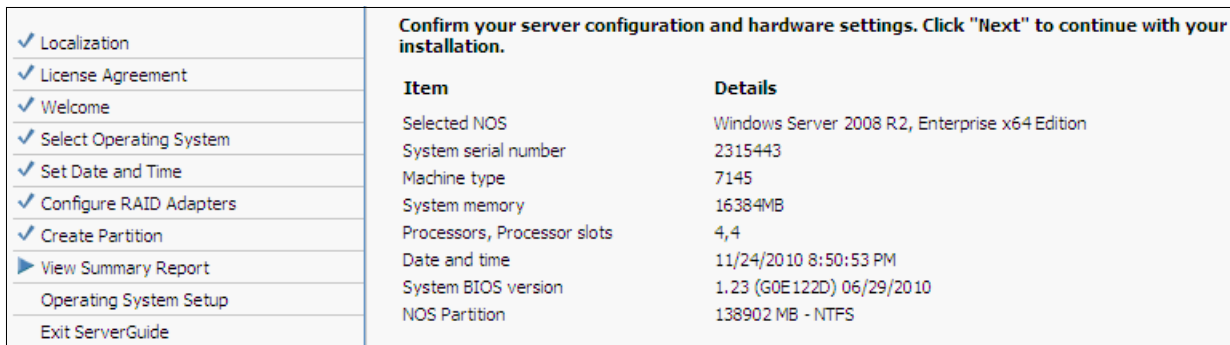

Figure 9-56 Summary of selections
16. Review the configuration, as shown in Figure 9-56. Click **Next**.